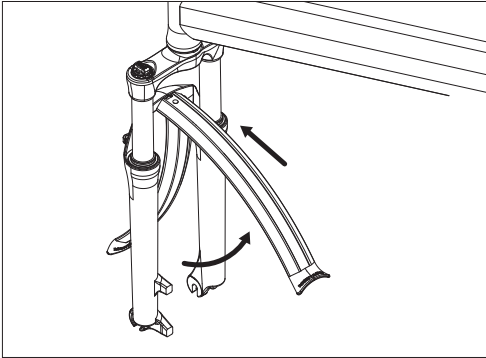

Fig. 27: Rotate, slide in, and tighten fender in place.
1. Rotate the fender to the up position, slide it in toward fork, rotate screw clockwise to lock in place (Fig. 27).